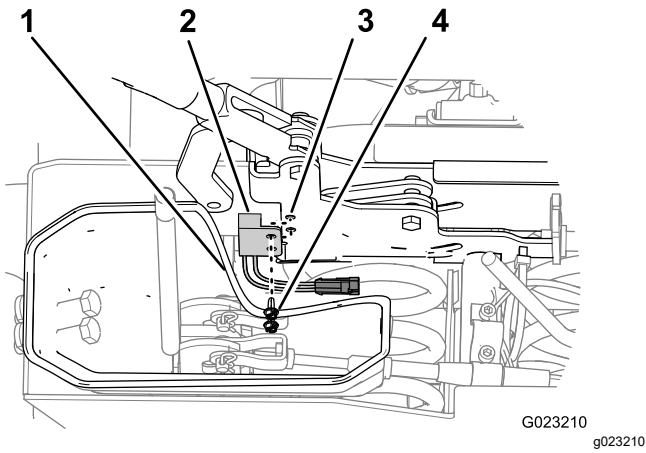

Figure 13
- 1. Move the lower-dust boot for the gear selector away from the left side of the parking brake assembly (Figure 13).
2. Align the holes in the parking-brake switch with the holes in the left side of the parking brake (Figure 13).
3. Secure the switch to the brake with the 2 hex-washer head screws (Figure 13).